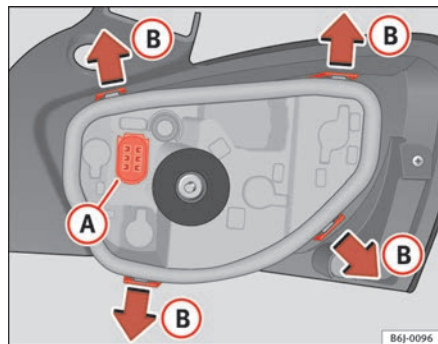

Fig. 156 Changing bulbs on rear lights
- Remove the lamp holder, separating it from the casing. To do this, press tabs (B) in the direction of the arrows ⇒ fig. 156.